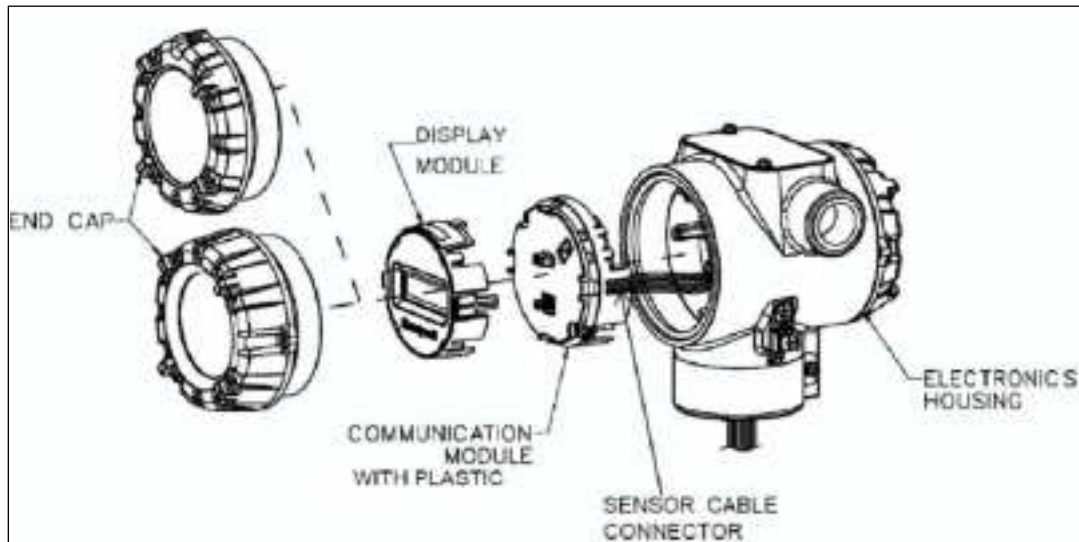

Figure 24 – ST 700 Standard Transmitter - Disassembly for Meter Body Replacement
Refer to Figure 24 for parts locations.
16. Install external upgrade label (e.g. DEVICE MODIFIED.....) provided on outside of housing as shown in Figure 24.